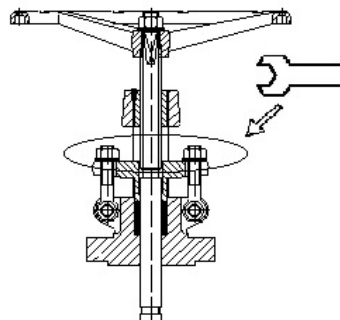

Fig.2 Stem packing gland tightening
- The valve stem packing should be the subject of particular attention as it is important for the qualitative maintenance of tightness and should be periodically checked. If leakage at the stem packing is detected, the gland nuts should be tightened slowly (Fig. 2). When gland nuts are tightened, if the gland falls down more than twice the packing ring height, new packing rings should be added to the stem packing.